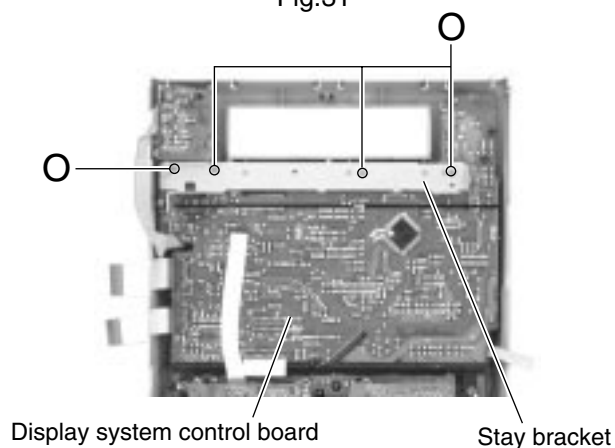

Fig.32
■ Removing the display system control board (See Fig.32 to 34)